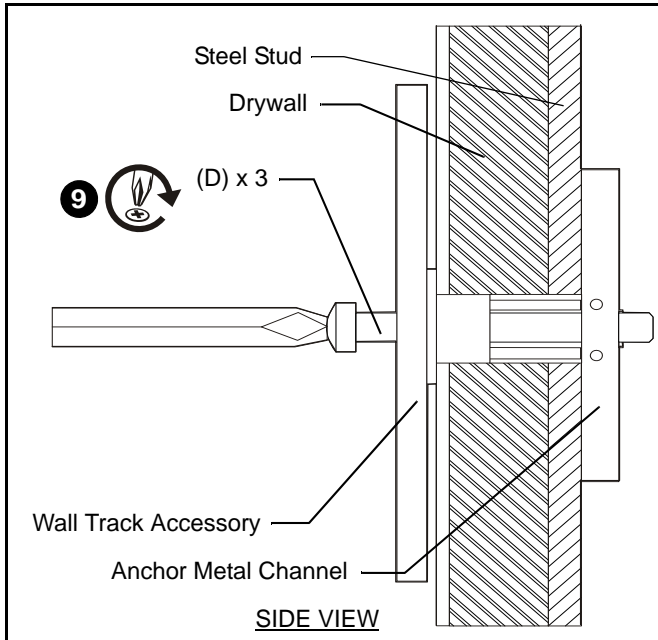

Figure 14
12. Insert 1/4-20 x 1 3/4" Phillips pan head screws (D) through corresponding mounting hole on wall track accessory and into anchor (C) and tighten until flush against mount. DO NOT overtighten! (See Figure 14)